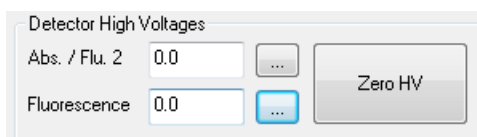

Figure 2-19: the Detector High Voltages panel
6) Now click the '...' button next to the **Fluorescence** box on the **Detector High Voltages** panel (Figure 2-19).